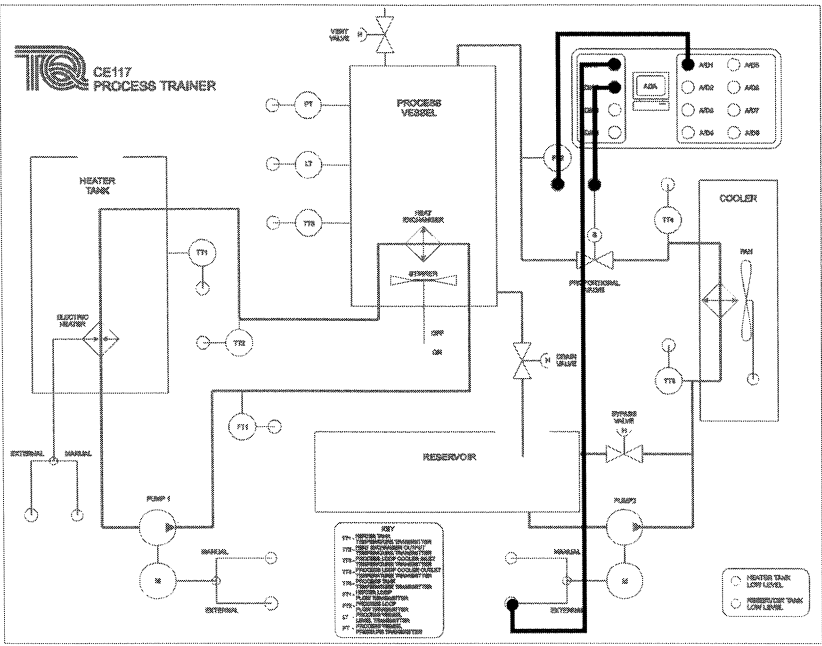

Figure 55 Connections for Experiment 3 Procedure 1
- 3) Connect the CE117 Mimic Panel as shown in Figure 55. Set Pump 2 switch to 'External'. Analogue signals will pass from the ADA section to Pump 2, the proportional valve (S) and from flow transmitter (FT2).